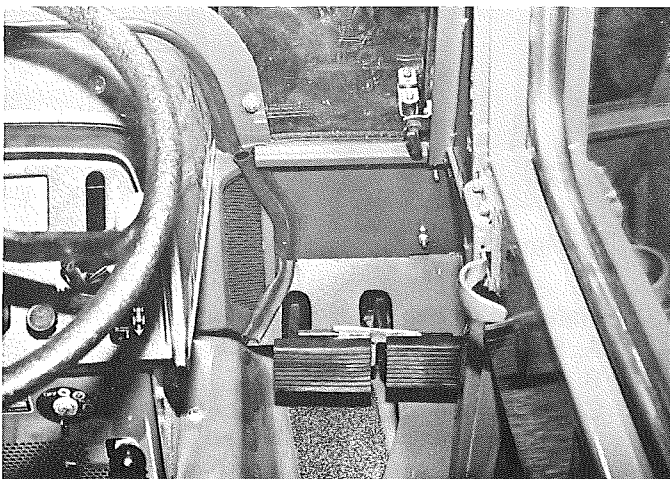
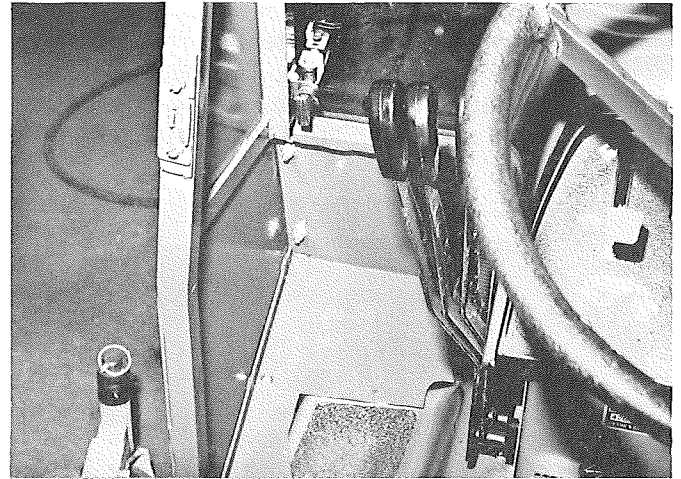

Figure 7
Figure 8
D. Install right and left hood filler panels using six $\frac{1}{4}$ " x $\frac{3}{4}$ " trusshead screws, flatwashers, lockwashers and nuts. Fig. 7 and Fig. 8.